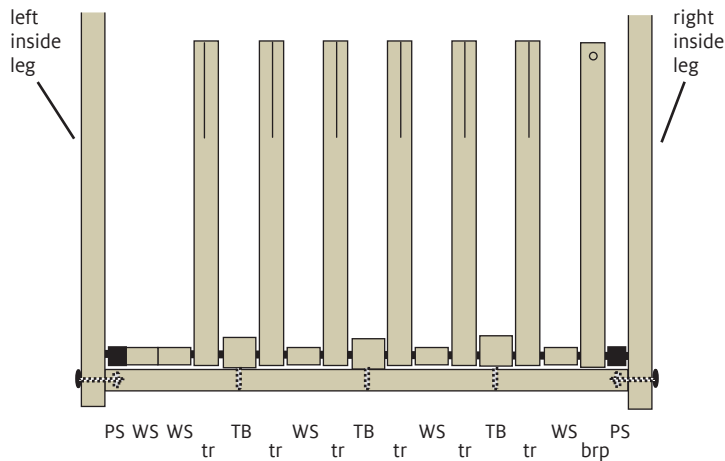

FIGURE 5: TREADLE ASSEMBLY
8. Using a #2 Phillips screwdriver, remove the 3 screws attaching the treadle blocks (**TB**) to the treadle support (Figure 5, page 4). Remove the metal treadle bar from the treadle support. Remove all parts from the metal treadle bar, saving the plastic spacers (**PS**), treadle blocks (**TB**), and wooden spacers (**WS**) for the next step.
(brp) onto the metal treadle bar with the parts saved from Step 11. Parts go in the following order (from left to right of the loom front, shown in Figure 5): PS, WS, WS, tr, TB, tr, WS, tr, TB, tr, WS, tr, TB, tr, WS, brp, PS.